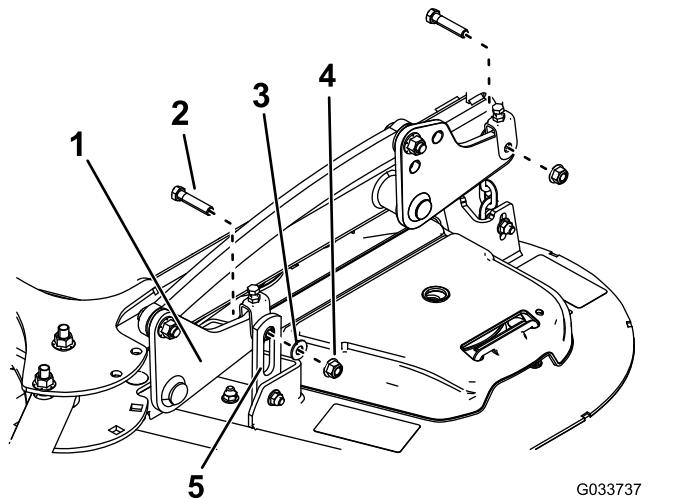
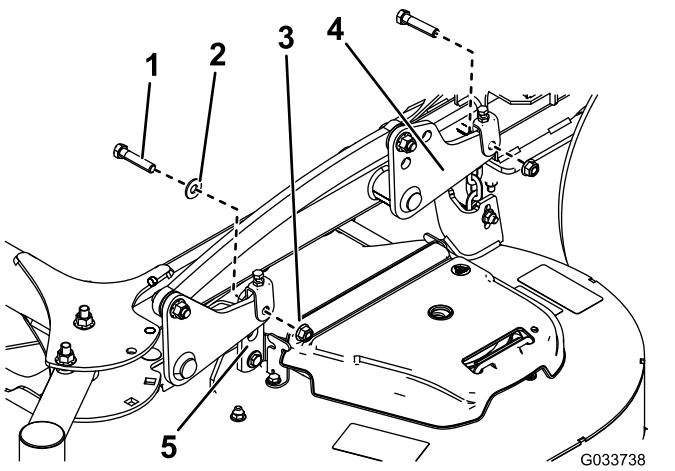

Figure 93
Figure 94
5. Remove the 2 bolts, 2 nuts, and washer connecting the mower-deck hangers to the lift plates for both sides of the mower deck (Figure 93 and Figure 94).
Note: Mount the front hanger brackets on the outside of the front lift arms for 52-inch decks (Figure 93). Mount the front hanger brackets on the inside of the front lift arms for 60-inch decks (Figure 94).